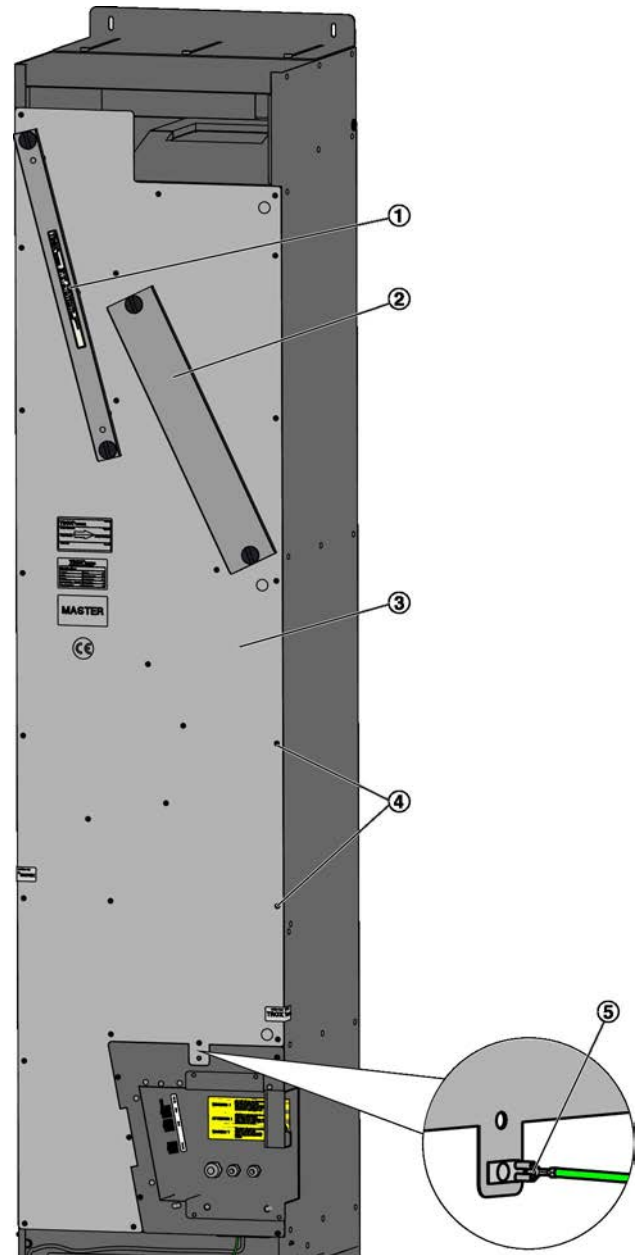

Fig. 24: Removing the cover plate
3. ▶ Remove the coarse dust filter (Fig. 24/1), and remove the cover (Fig. 24/2) from the fine dust filter chamber ↪ on page 29.
4. ▶ Remove the cover plate (Fig. 24/3) by loosening all the Phillips screws (Fig. 24/4) on the plate.
Disconnect the protective earth conductor (Fig. 24/5) when you remove the plate.